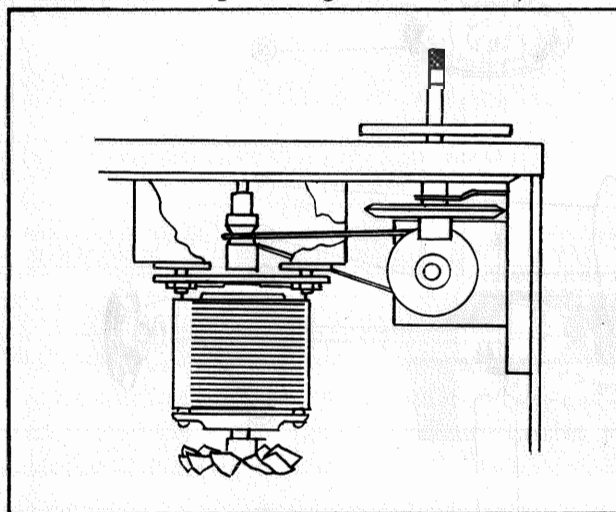

Figure 9
1. With control knob in "Rewind" position, remove clutch adjustment nuts on lower end of the take-up spindle (left side) and lower the clutch plate (28) exposing the spindle hub (30).
3. With control knob in "Wind" position, loosen the set screw in the hub of rubber drive wheel (21). Remove drive wheel (21). Slide drive shaft (22) to the left until clear of the right hand drive shaft bearing.
4. Place new belt over drive shaft and replace shaft in bearing. Make sure thrust washer between drive pulley (25) and bearing is in place.
5. Replace thrust washer and rubber drive wheel (21), adjusting the thrust for free rotation of shaft without excessive end play. Excessive end play may cause noisy operation.
6. Place belt into groove of drive pulley (25). Insert a suitable tool through the motor support plate from the right front towards the rear and grasp belt (24). Pull belt with a 90° twist over the motor pulley. Belt should lead from the top of the drive pulley to the right side of the motor as in Fig. 9.